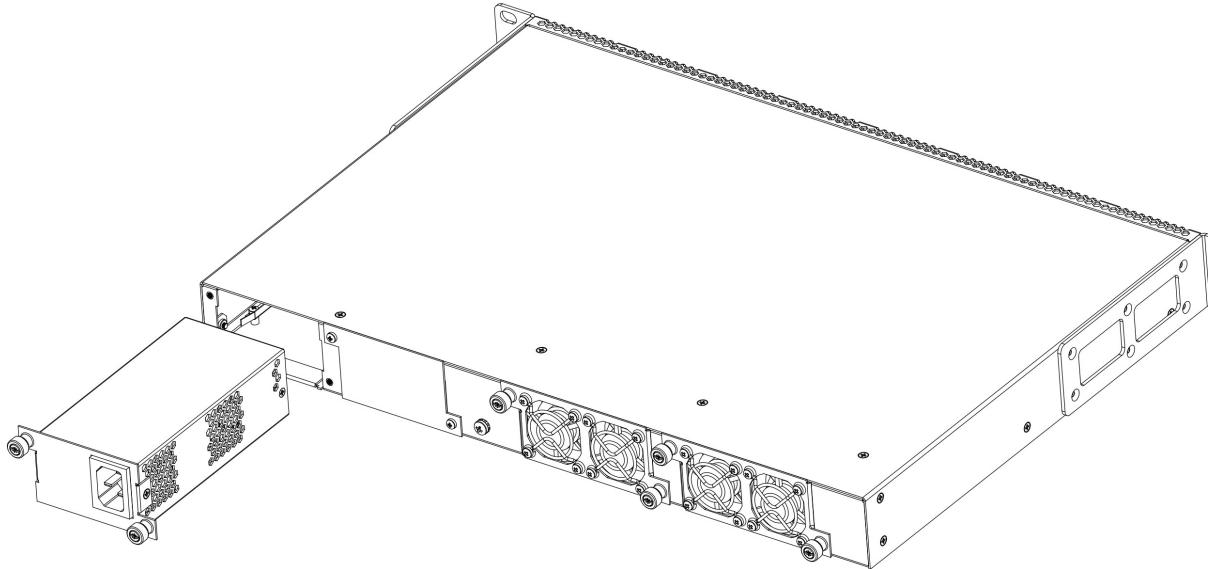

Figure 4 – Power module installation
Depending on power supply requirements, terminals can be supplemented with either an 220 V, 50 Hz AC power module or a 48 V DC power supply module. The installation location for the power module for LTP-16N(T) is shown in Figure 4.